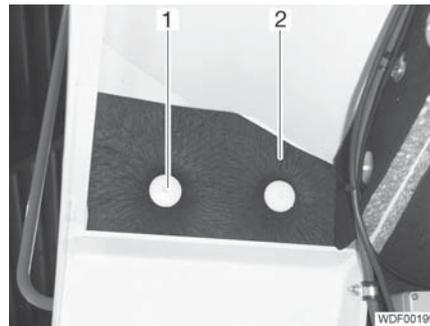

Fig. 306 Insulation mat
- Remove the attachment clips (Fig. 306,1).
- Remove the entire insulation mat (Fig. 306,2).
- Connect the attachment clips (Fig. 306,1) to the attachment pins and knock them carefully into place with the hammer.